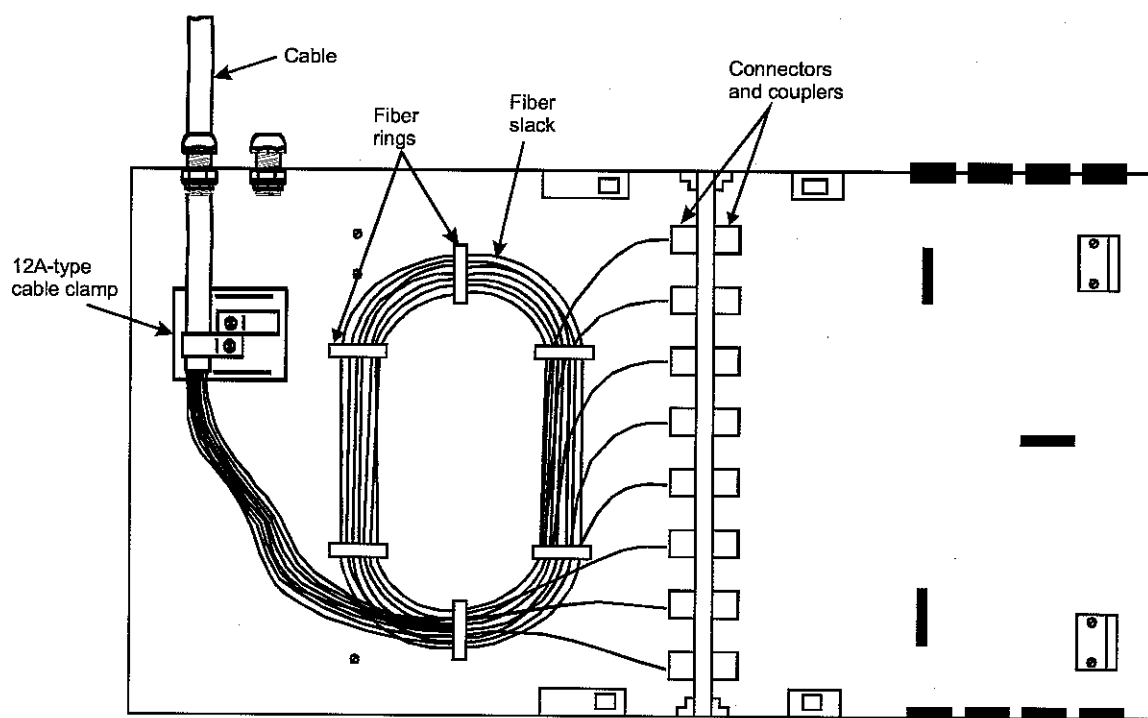

Figure 9—Cable Slack Storage
1. Pull bulk-head unit out until it stops (Figure 9).